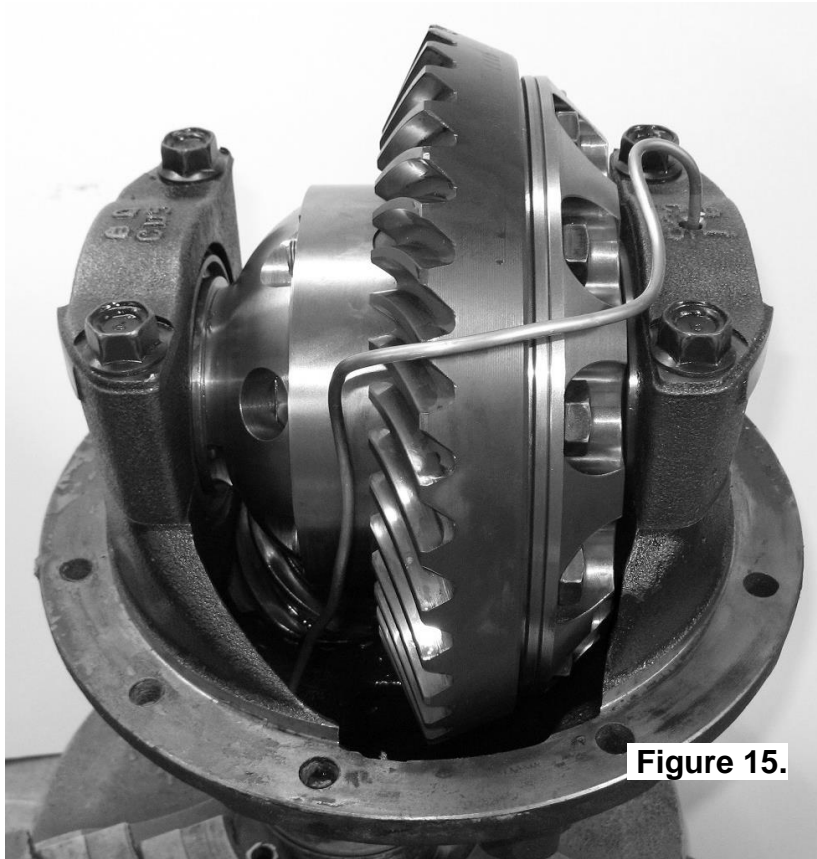

Figure 15.
- Without using sharp, jagged tools such as pliers (usually your hands are the best tool for this job), bend the seal housing tube so that it closely follows the profile of the differential housing and protrudes through the bulkhead port in the differential housing (Fig.14. and Fig.15.).